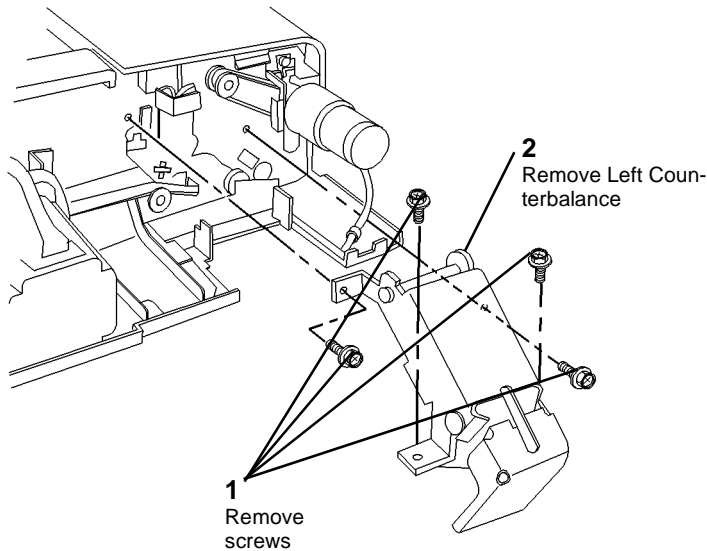

Figure 1 Removing Left Counterbalance
5. Remove Left Counter Balance (Figure 1).